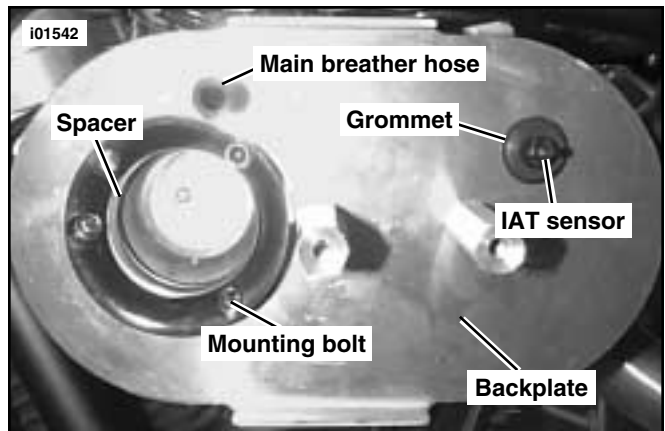

Figure 11. Model S3 Race Air Cleaner Backplate
10. For S3 Models, see Figure 11. Install IAT sensor grommet into backplate.
13. See Figure 11 or 12. Carefully install main breather hose into backplate.